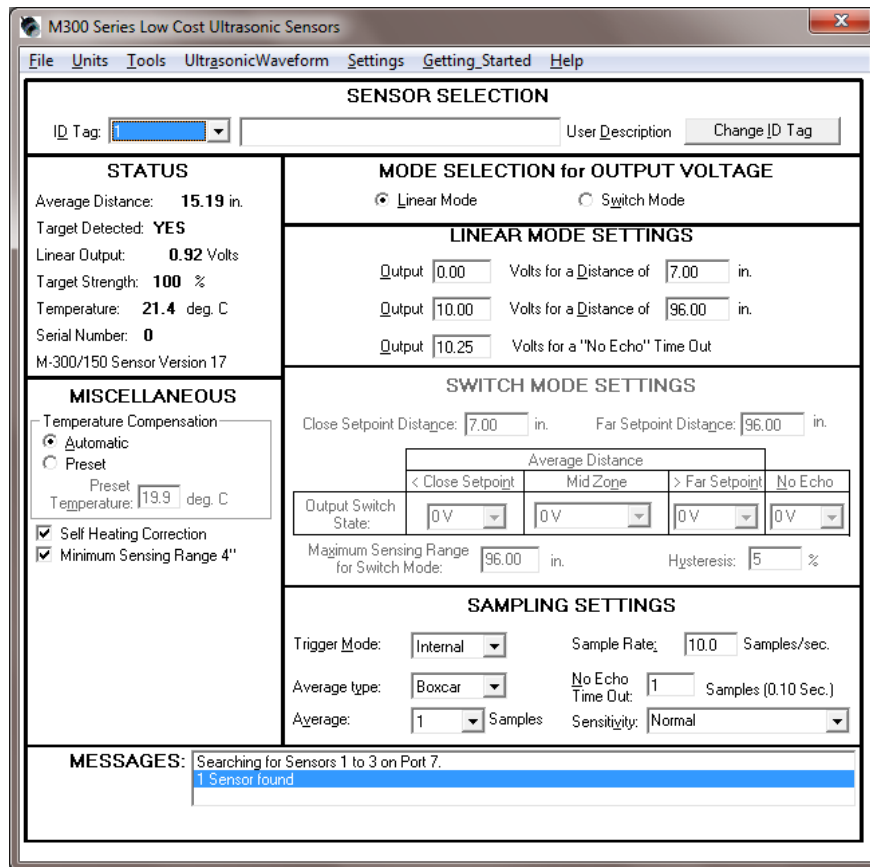

Figure 4
- The Status and Setup Screen will appear, as shown in Figure 4, and an indication that the sensor was “found” will appear in the ‘Messages’ box at the bottom of the screen.
In the 'Linear Mode', the user can set the values for the following programming options using the Status and Setup Screen shown in Figure 4 in Section 2 on Page 4.
In the 'Switch Mode', the user can set the value of the following programming options using the Status and Setup Screen shown in Figure 4 in Section 2 on Page 4.